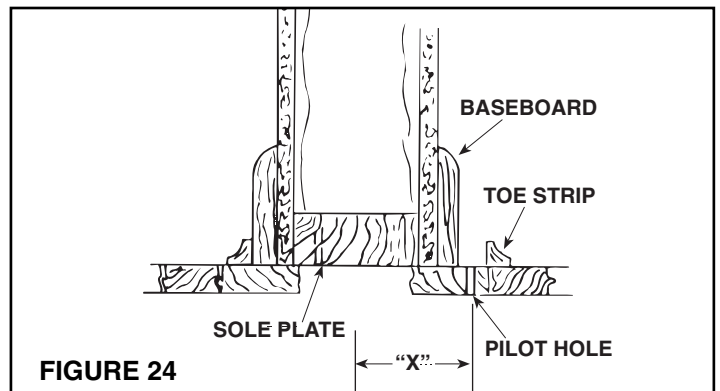

FIGURE 24
1. **See Figure 24.** A small “Pilot” or “Locating” hole can be drilled behind baseboard toe strip to determine proper location of 2½” diameter tubing hole in sole plate.
3. **See Figure 24.** Once desired inlet locations have been determined, cut a 2½” hole in soleplate directly in line with proposed inlet location. Check through tubing hole to be sure no obstruction exists.